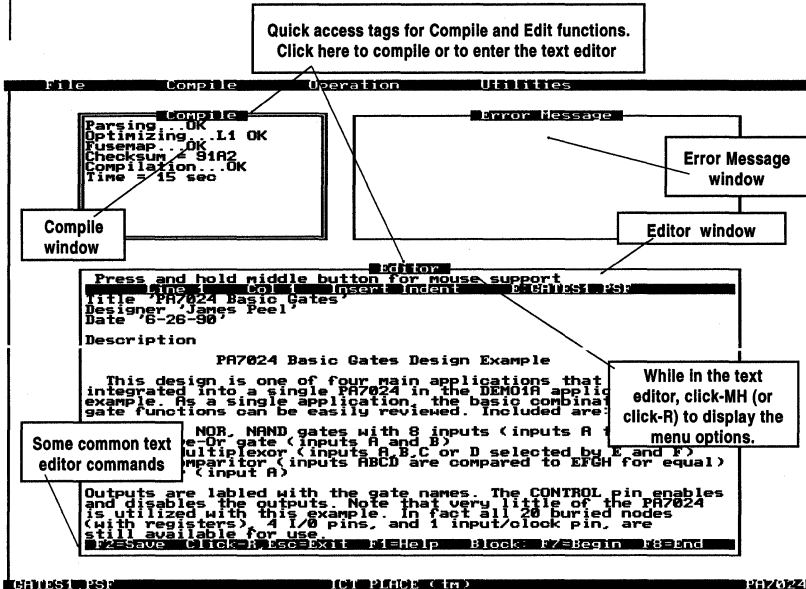

Figure 10-37, Compile Operation screen
There are three windows in the main screen of the Compile Operation (Figure 10-37). Each of these windows provides a specific function in regards to the compilation process of the PLACE Source File (PSF).
Optimization - Implements logic transformation (complex equations into sum-of-product form conversion) and reduction to the parsed PSF file, and outputs the results to a file with extension ".RED". The RED file is in the PSF format, hence it can be read into the Design Operation for analysis of the reduced equations. After optimization is completed, the reduction level implemented is displayed. For instance in Figure 10-37, the "L1" term in "Optimizing ...L1 OK" indicates that the reduction level L1 was used for the GATES1.PSF design, and the optimization process was successful (as indicated by OK).
- **The default option for the reduction level selection is "Auto 1-5".** The "Auto" reduction levels refer to the automatic increments of the reduction levels. For instance, the "Auto 1-5" means that the optimization process starts with reduction level 1. If the design does not fit the device after the completion of level 1, then it proceeds to level 2. If the design still does not fit the device, it proceeds to level 3 and so on until a fit occurs. Once the design achieves a device fit, the reduction level will be displayed in the Compile window (Figure 10-37).